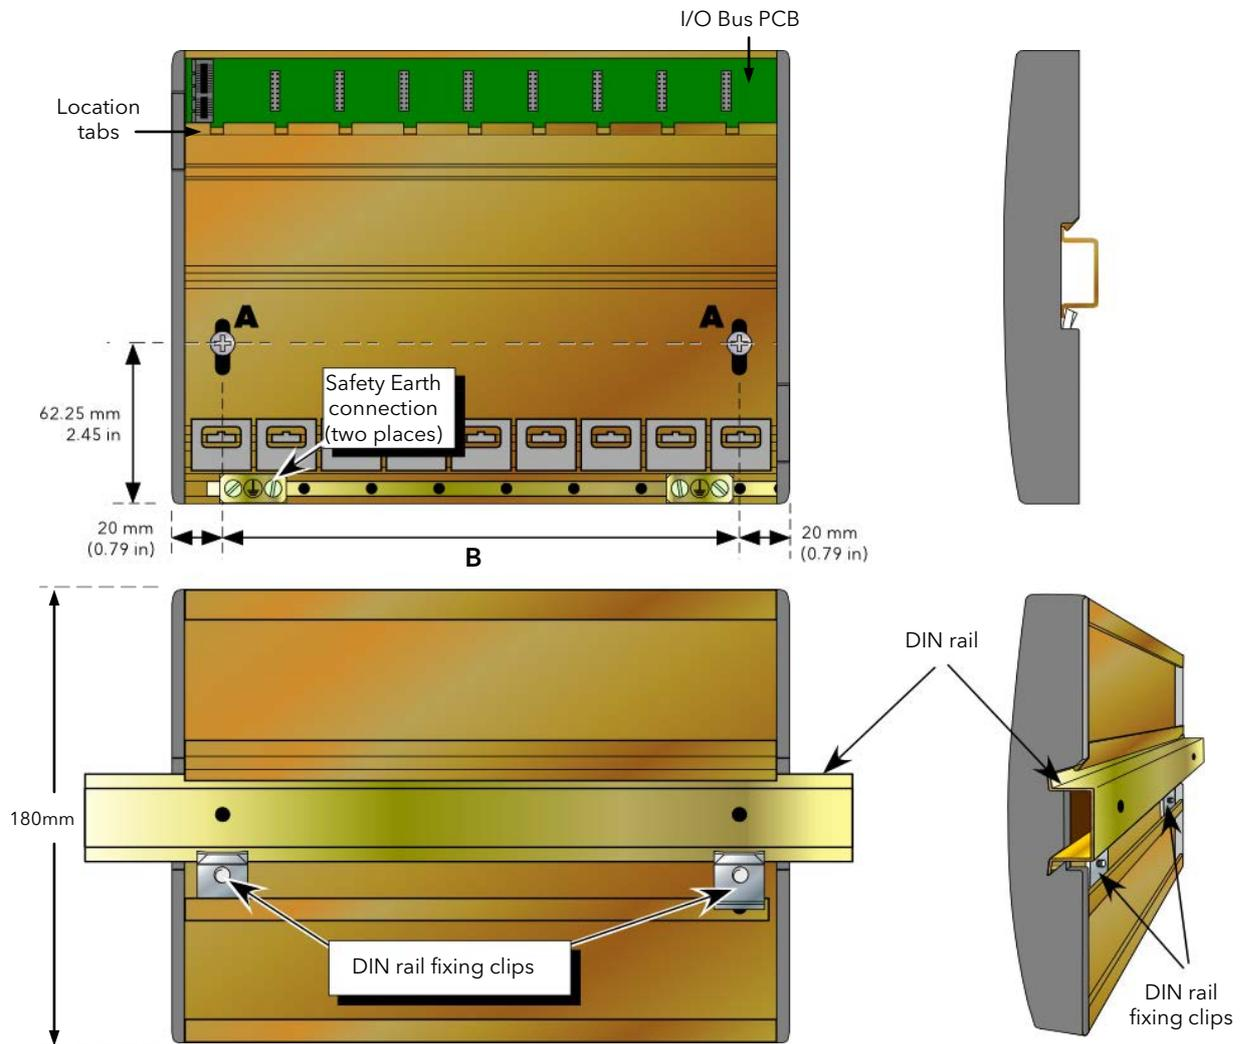

Figure 1-3: The 2500 Base and Terminal Units
The 2500 base unit is intended to be mounted in an enclosure, or in an environment suitable for IP20 rated equipment. It can be DIN or bulkhead mounted. When mounted on DIN rail it is locked with the clamps at each end. The unit can be mounted in any orientation, but it is normal to refer to the I/O Bus PCB as the top, as in Figure 1-3 below.
2. Loosen the screws ('A' in Figure 1-3) in the base unit, two or three turns, and allow them, and the associated fixing clips to slide to the bottom of the screw slot.
3. Lower the base unit onto the DIN rail such that the top edge of the rail fits into the slot on the underside of the support bar (see Figure 1-3)
1. Remove the screws ('A' in Figure 1-3) and associated fixing clips.